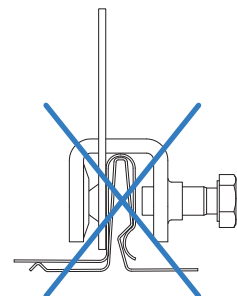
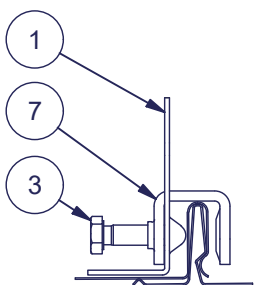
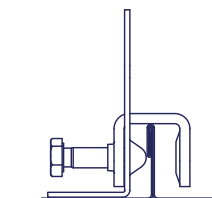
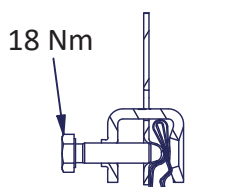

figure 6
figure 3 Snap-lock standing seam roof
figure 4 Mechanically seamed metal roof
figure 5
Slide the tightening clamp into the hole in the bracket. On snap-lock standing seam roof the bolt side of the tightening clamp is placed on the intact side of the seam (figure 3) and on mechanically seamed metal roof it is placed on the folded side of the seam (figure 4). **NOTE! The bolt of tightening clamp must always be against the fastener, NOT against the seam (figure 6).** Tighten the M8 bolt (3) in the tightening clamp to 18 Nm, allowing the tightening clamp to spread out a bit, in order to create a tight long-lasting connection (figure 5).